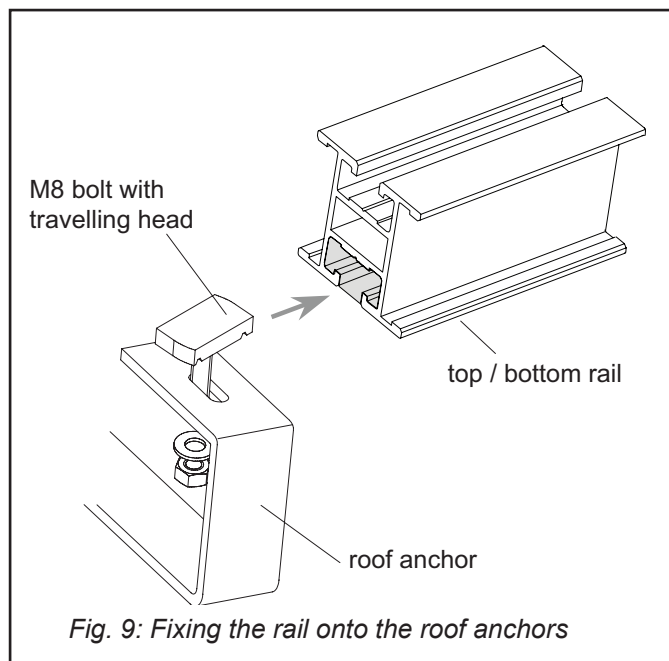

Fig. 9: Fixing the rail onto the roof anchors
- Then mount the U-shaped bracket (Fig. 9) on the bolt, between two nuts with a washer.
- Align the travelling screw head (Fig. 9) with the horizontal rail and shift the rail onto it, or shift the bolts into the rail first and fix to the anchors. Use serrated lock washers to fix the nuts.